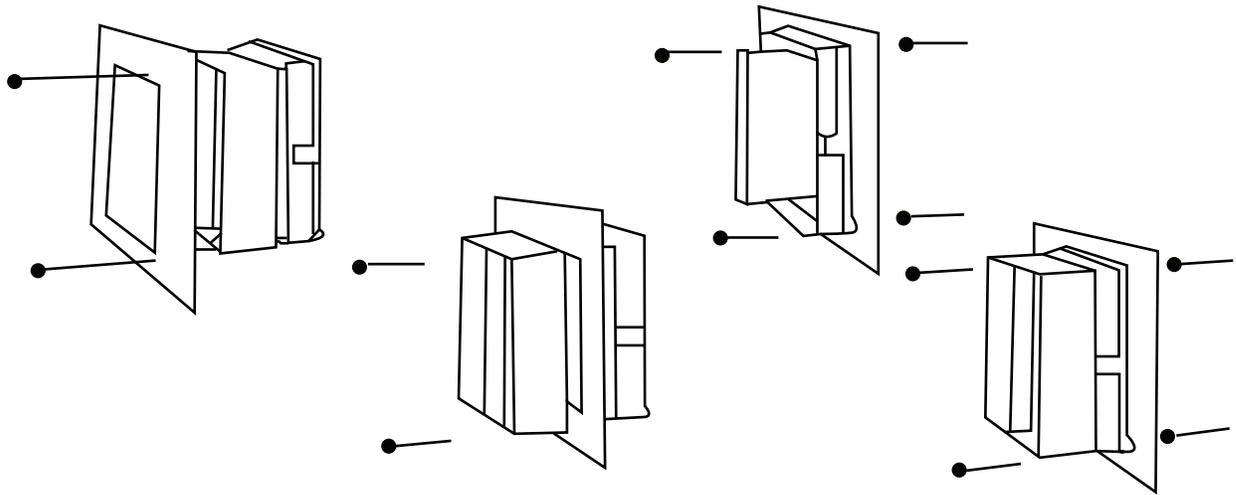

Figure 1. Base Mounted Controller Mounting Configurations
6. The controllers may be surface mounted or panel mounted as shown in Figure 1, page 9. Mount the controller. Mounting dimensions are shown in Figure 2, page 9.